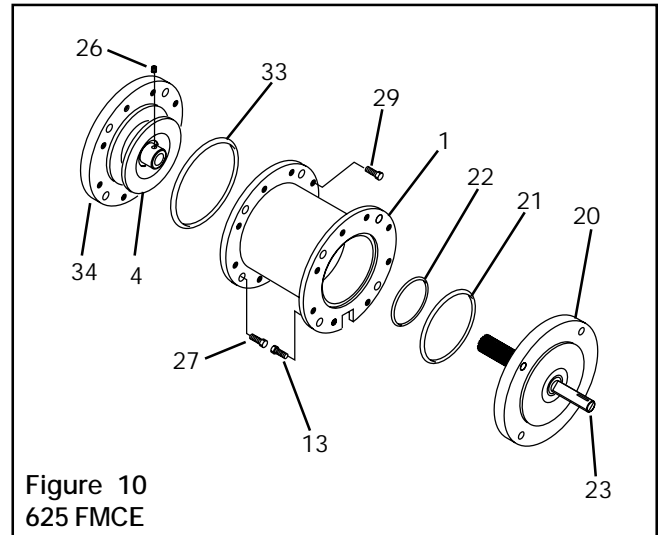

Figure 10
1. Remove the Hex. Head Cap Screws (Item 27), Female Pilot (Item 34), Drive Disc (Item 4), and O-ring Seal (Item 33) from the FMCE Assembly (See Figure 10).
2. Remove the Hex. Head Cap Screws (Item 13), Male Pilot (Item 20), Bearings (Item 19), Stub Shaft (Item 23), and O-ring Seals (Items 21 and 22) (See Figure 10).
3. Remove the Hex. Head Cap Screws (Item 29); then, loosen the Set Screw (Item 26) and slide the Female Pilot (Item 34) off the Input Unit or Motor (See Figure 10).